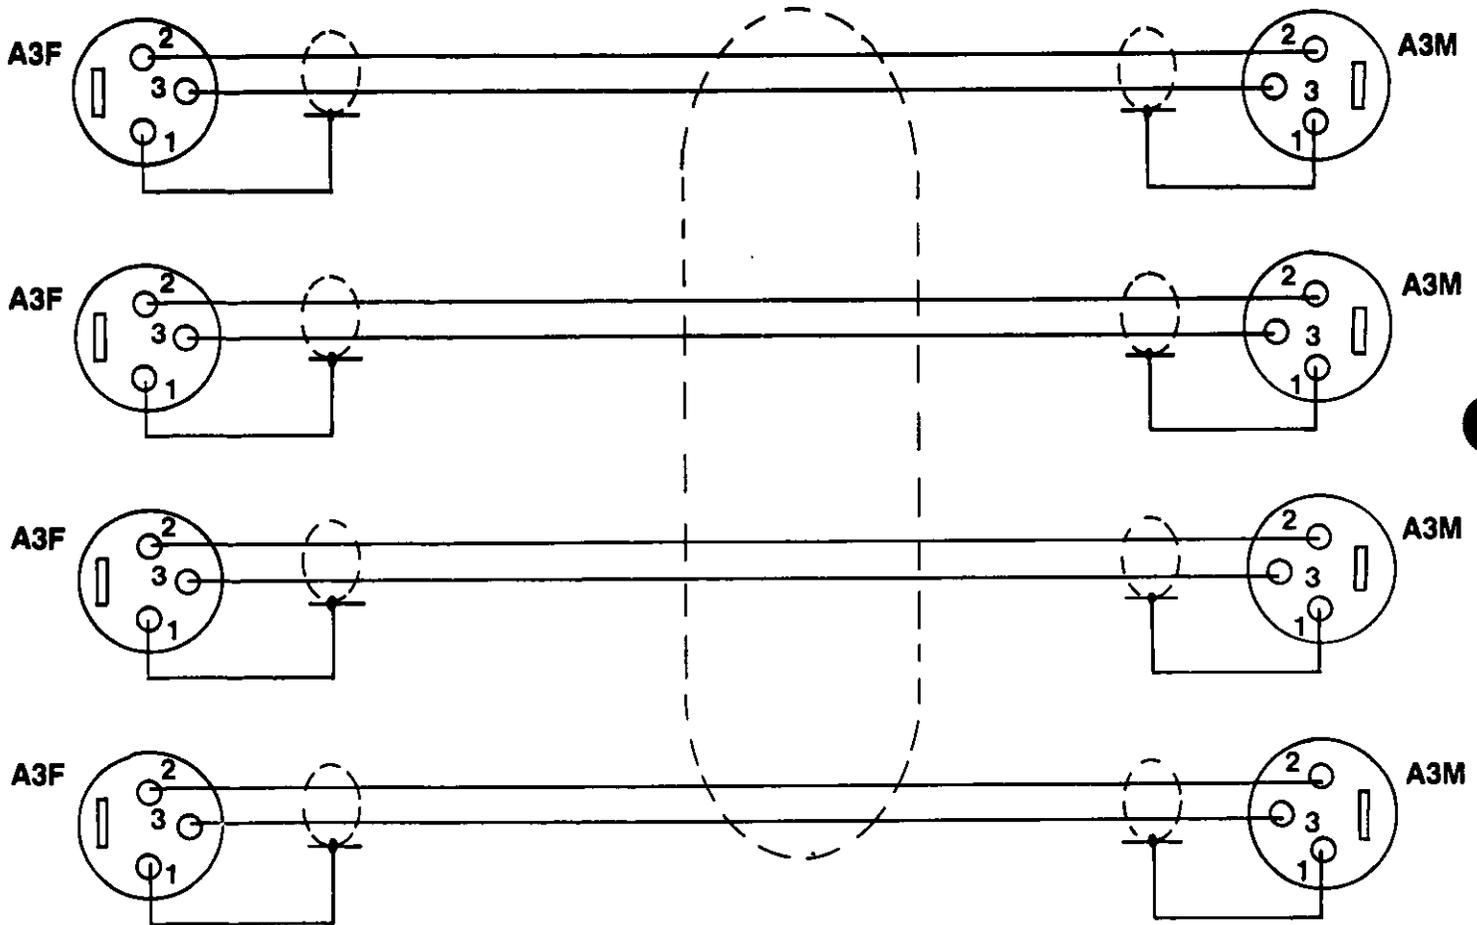

Figure 5 - INTERCONNECT CABLE DETAIL
8) When using four-pair cable, you should connect all the shields and ground wires. This effectively lowers ground resistance and improves crosstalk. See the Interconnect Cable Detail diagram, Fig. 5. Also, tie any unused wires in the interconnect cable to Ground (Pin 1 on intercom XLR connectors), thereby further improving crosstalk.